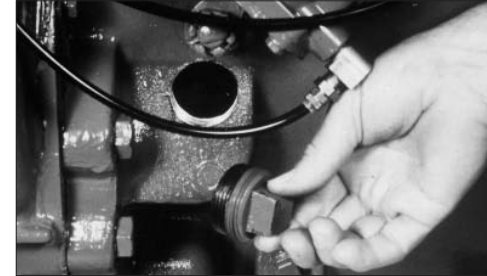

Fig. 6
1. Remove the filler plug from the transmission and add recommended transmission lubricant to the level prescribed by the transmission or truck manufacturer (Fig. 6).